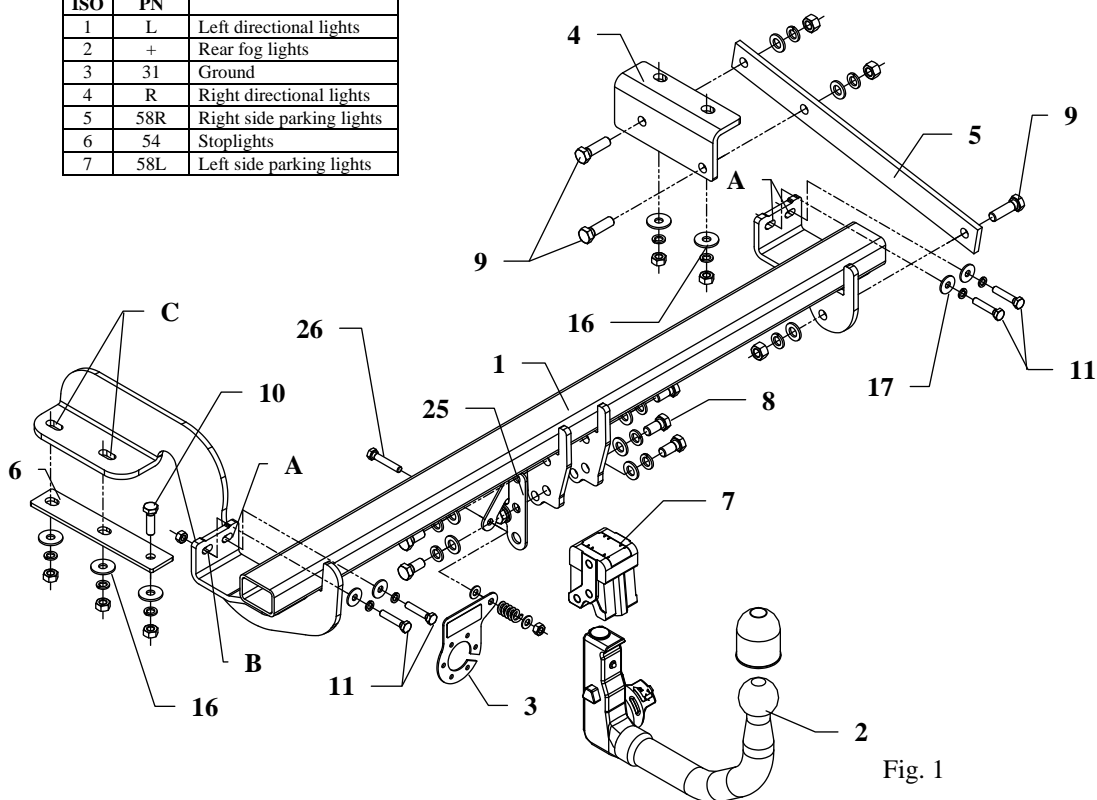

Fig. 1
2. In points A (see fig. 1) one ought to unscrew the original bolts.
5. Apply the main bar of the towing hitch (pos. 1) at points A, B and C.
6. Assembly elements of muffler fastenings with fish-plate (pos. 6).
7. Apply the angle bar (pos. 4) to the right chassis member.
8. Fix loosely flat bar (pos. 5) to the angle bar (pos. 4) and to the main bar of the towing hitch (pos. 1) using bolts M12x40mm (pos. 9).
9. Fix body of the automat (pos. 7) using bolts M12x25mm (pos. 8) from accessories. Place tow-ball (pos. 2) according to supplied instruction.
10. Fix socket plate (pos. 3) as shown on the drawing.